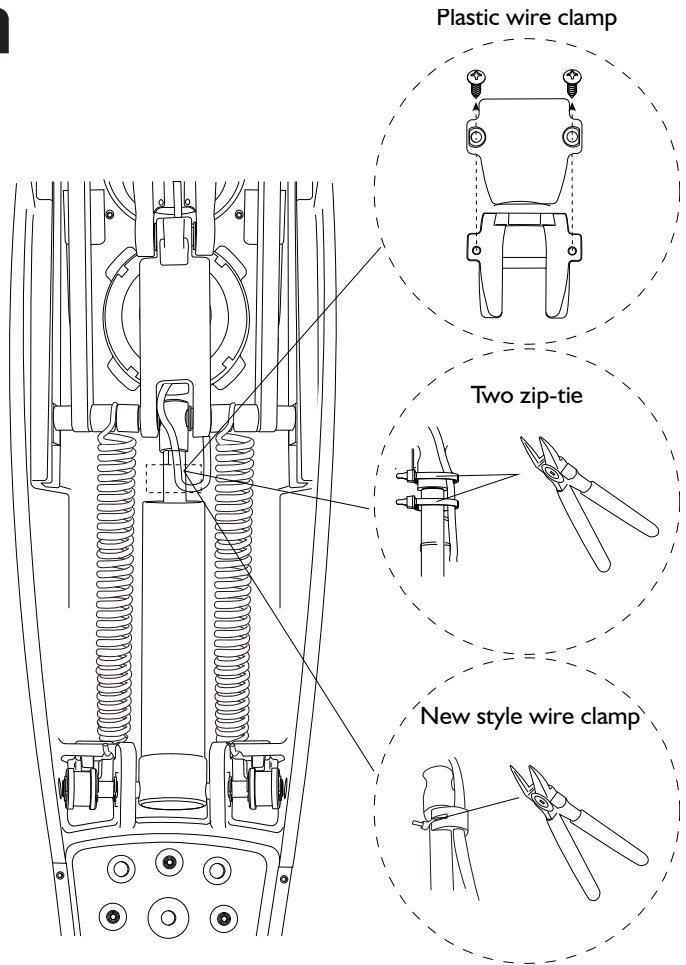

Figure 5. Removing the backrest sensor strain relief
**1** Remove the backrest sensor strain relief (see Figure 5) and push the harness to the side of the cylinder.